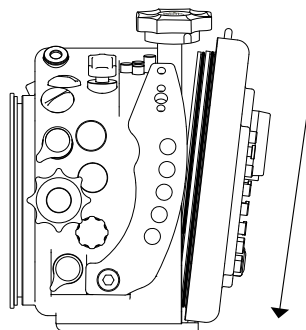

Figure 7
- Insert the two pins on the base of the Back into the appropriate slots on the Front Body, keeping the Back in an oblique position; (fig. 7)